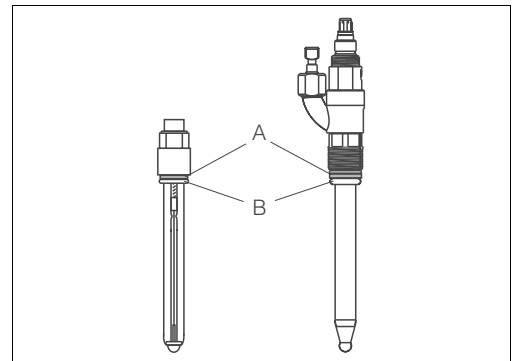

Fig. 13: Sensor installation
Make sure the sensor shaft is fitted with the O-ring (Fig. 13, A) and the thrust collar (B).